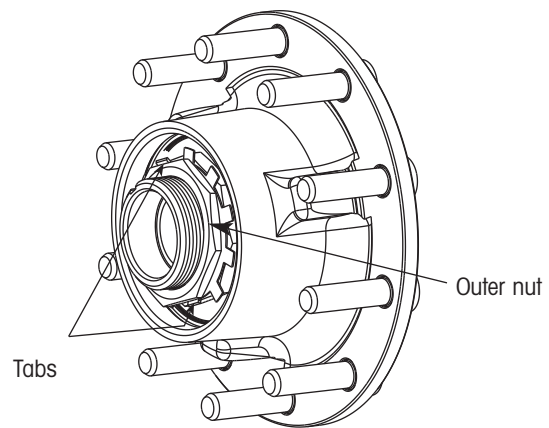

Figure 9. Straighten the lockwasher tabs
- Using a screwdriver or other suitable tool, straighten the two opposing flattened lockwasher tabs until they clear the outer nut (figure 9).